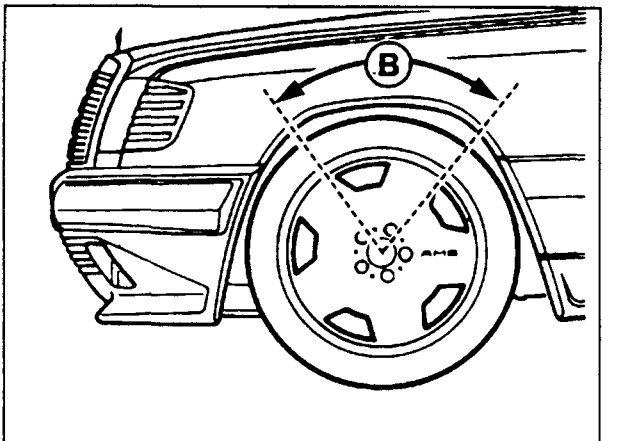

Figure 26
10. Work fender lip contour so that the transition curve (B, Figure 26) is smooth.